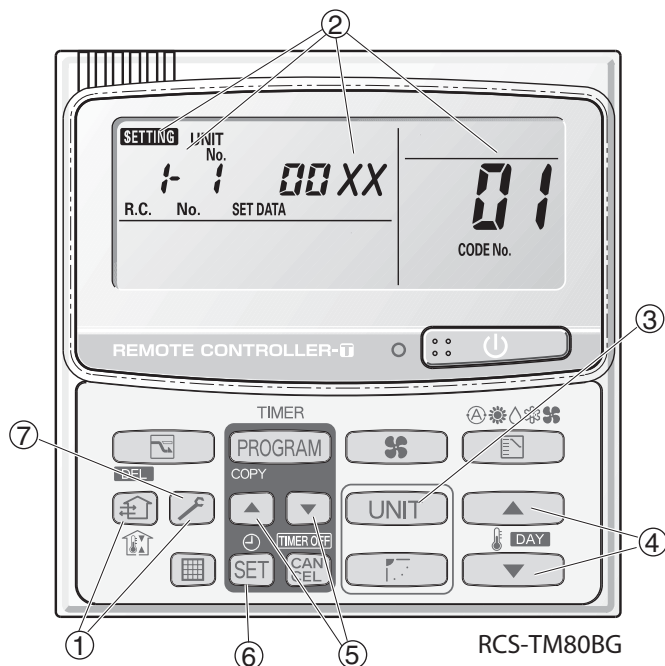

Fig. 1
- "**SETTING**," unit No. "**1**" (or "**ALL**" in the case of group control), item code "**01**," and settings data "**00XX**" are displayed blinking on the remote controller LCD display (Fig. 1). At this time, the indoor unit fan (or all indoor unit fans in the case of group control) begins operating.